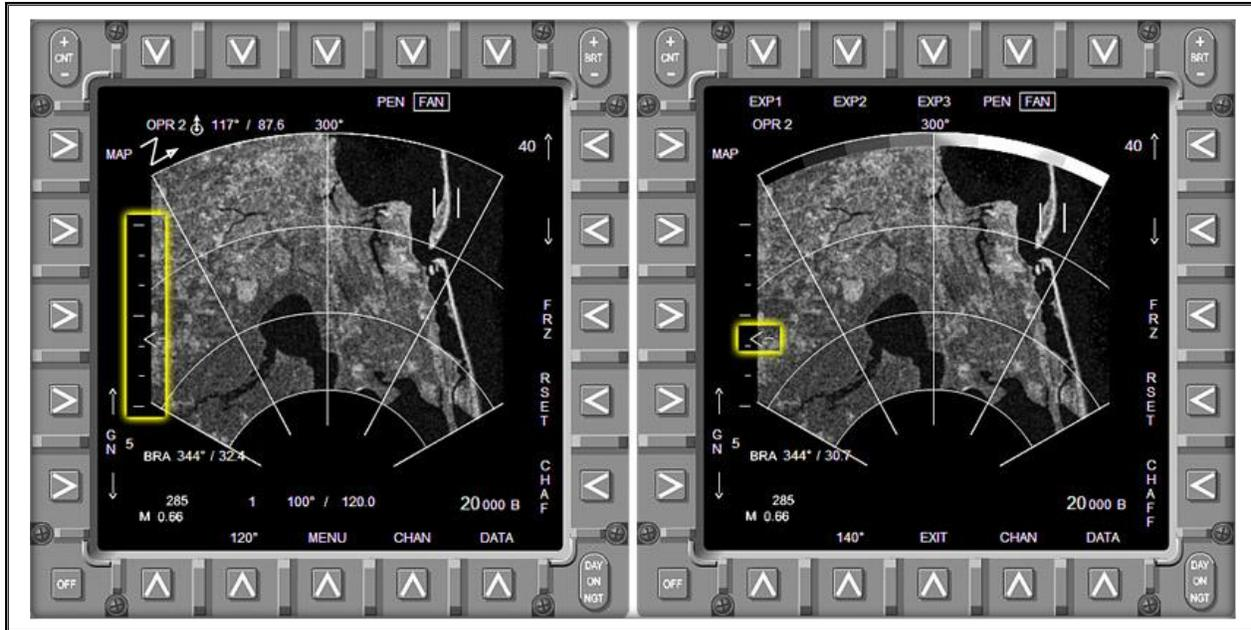

Figure 3-5 Antenna Elevation Scale/Elevation Caret
Scale displays 60 degrees of antenna elevation, in 10 degree increments (+-30 degrees from aircraft horizon, Figure 3-5).
- a. Elevation Caret – displays current antenna elevation (Figure 3-5, right image).
- b. Optimum Antenna Elevation Position – symbol depicted by “-” that indicates optimum radar coverage for current range/scale and aircraft altitude. Figure 3-5 shows this position to be coincident with the radar elevation caret.